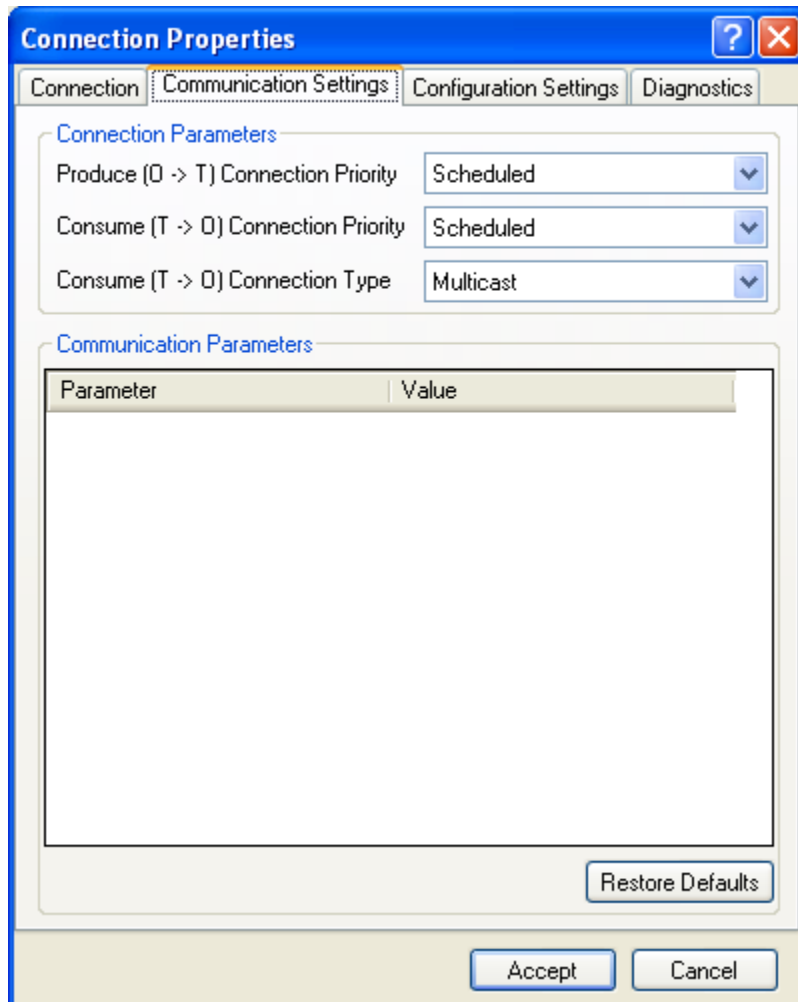
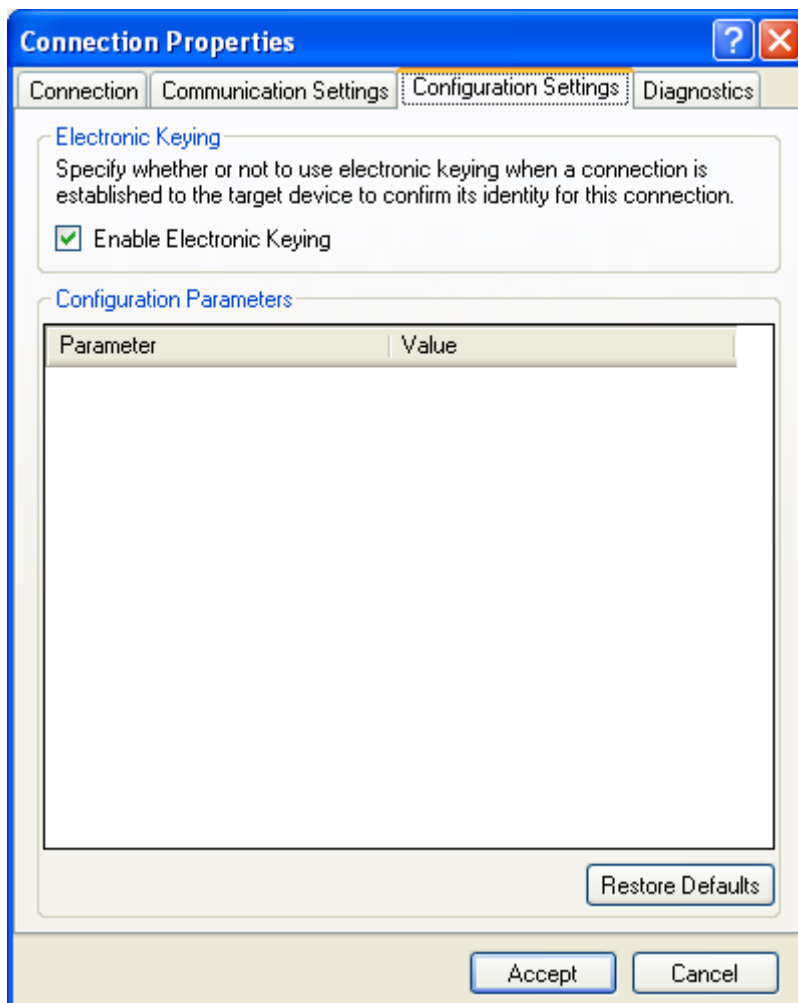
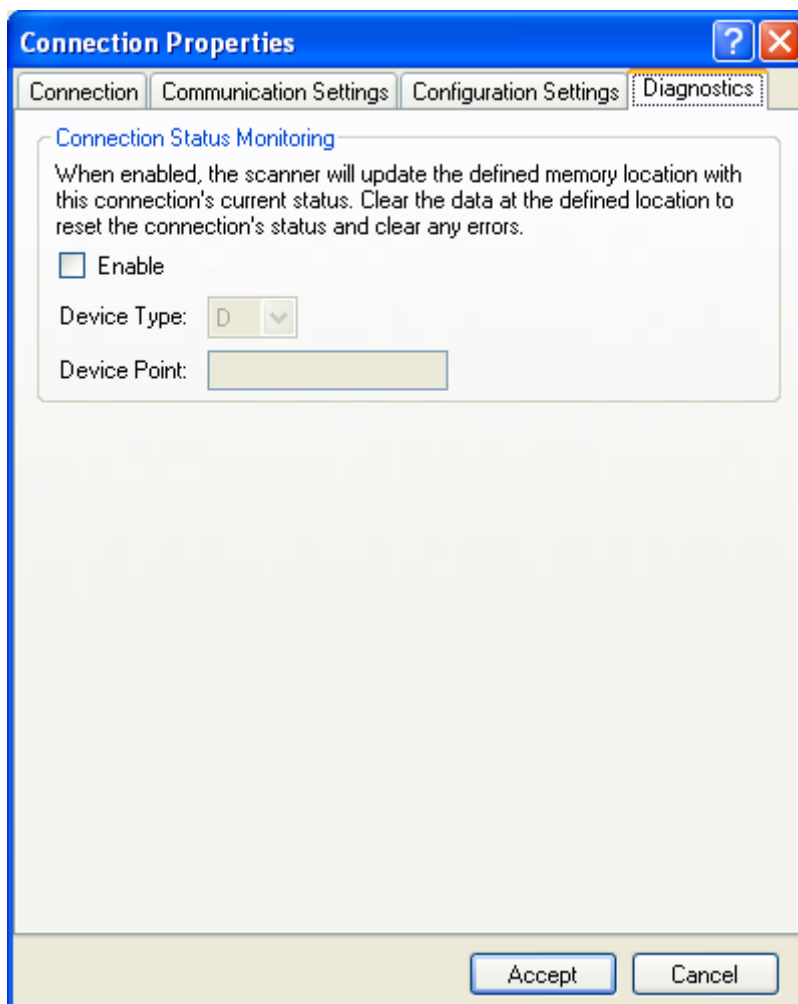

Figure 39: Connection Properties Communication Settings
Figure 40: Connection Properties Configuration Settings
Figure 41: Connection Properties Diagnostics
Review and configure the Connection Properties. The Connection Properties are configured with the default settings as specified by the device EDS file. Please consult the device vendor for more information regarding configuration data. Refer to Figure 37, Figure 39, Figure 40, and Figure 41.
6. Configuration of Diagnostics is optional (refer to Figure 41). It is highly recommended to enable Diagnostics to initially determine if the connection is successful.